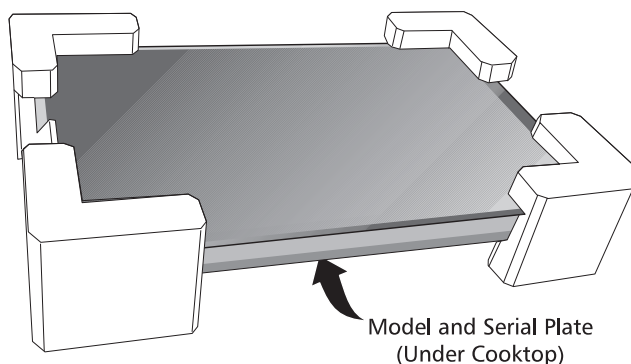

Figure 3
2. The appliance should be connected to the fused disconnect (or circuit breaker) box through flexible armored or nonmetallic sheathed cable. The flexible armored cable extending from this appliance should be connected directly to the grounded junction box. The junction box should be located as shown in Figure 3 with as much slack as possible remaining in the cable between the box and the appliance, so it can be moved if servicing is ever necessary.